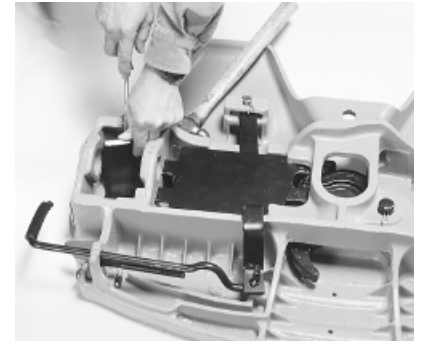
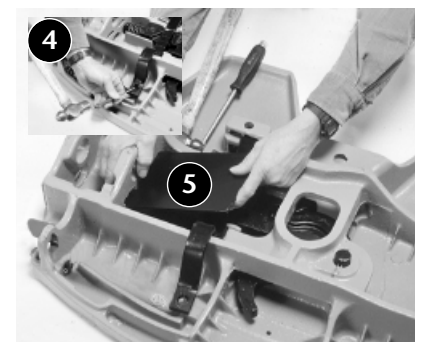

Figure 66
Figure 67
2. With a screwdriver or a similar tool, pop one end of the bracket pad out of the plate casting pocket and remove at both sides (*Figure 66*).
3. Remove the cotter pin from the lever bar pin and remove the lever bar pin (*Figure 66*).
- c. For rotary release wheels no fastener is used to secure the rod to the lever bar. For this design, simply separate the operating rod from the lever bar after removing the cover plate per item 5.
- a. For Castloc, Simplex IIR, Simplex Lite, slide the cover plate sideways into bracket pocket slots, lift and remove (*Figure 67*).